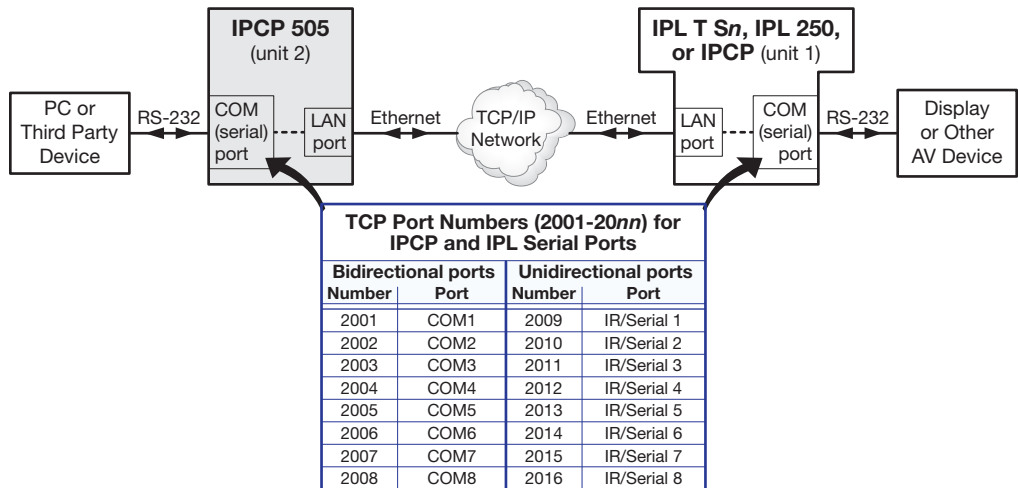

Figure 25. Serial Bridging System Diagram and Port Numbers
4. For serial bridging, click the **On** radio button to activate bridging mode (see ④).
5. In the **Remote IP Address** field, type in the IP address of unit 1 (the remote device) (see ⑤).
6. In the **Remote TCP Port** field, type in the number of the serial port number on unit 1 for this virtual connection (see ⑥).
- For an IPL 250 or IPL T S Series control processor, choose from 2001 (COM1) - 2006 (COM6), based on the available COM ports. See the diagram below (figure 25).